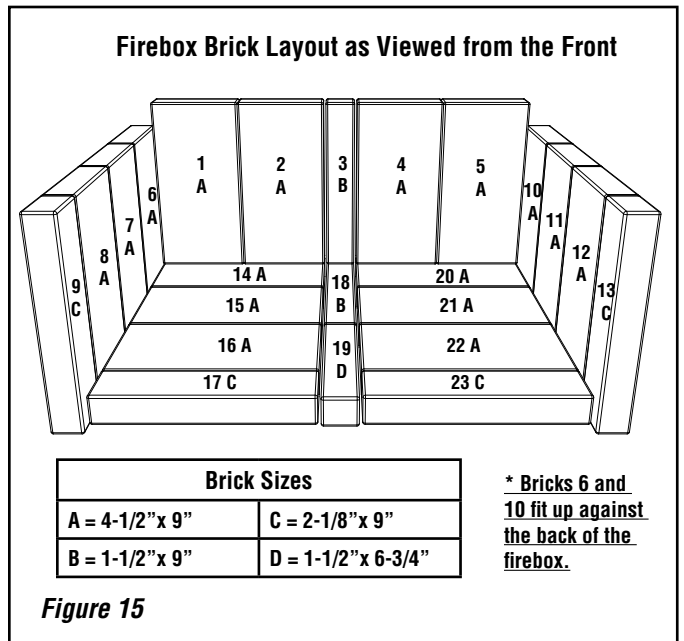

Figure 15
Measure bricks before installing, as per list of dimensions in *Figure 15*.
1. Install the brick as shown in *Figure 15*.